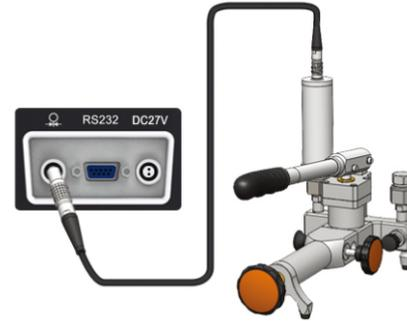

Figure 3-11 External pressure module
1. Connection: complete the pressure module connection as shown in Figure 3-11.